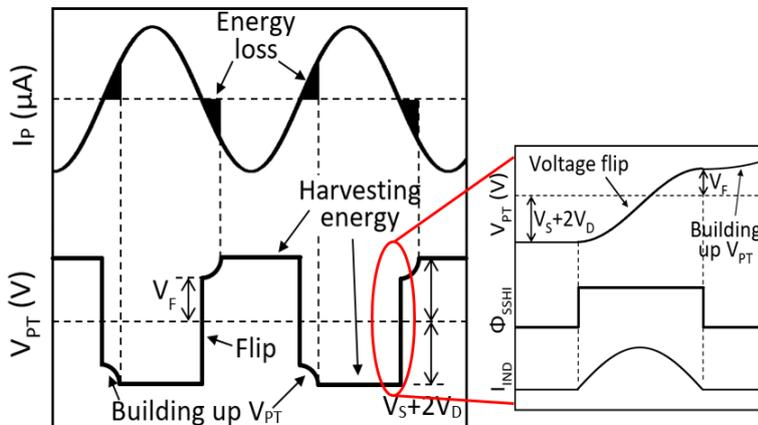

Figure 2b. Associated Waveform of SSHI Interface.
the PT. A weakly coupled piezoelectric transducer (PT) is employed in this work; hence, the synchronized switch damping (SSD) effect [18] is neglected and the PT can be modeled as a current source I_p in parallel with a capacitor C_p [9]. The associated waveforms of the SSHI circuit are shown in Figure 2b. Before zero-crossing instants of the current source I_p , the voltage across the PT, V_{PT} , equals to V_s+2V_D or $-(V_s+2V_D)$. In order to overcome the threshold set by the FBR and transfer energy into the storage capacitor C_s in the next half-cycle, V_{PT} needs to be flipped from V_s+2V_D to $-(V_s+2V_D)$ (or vice-versa).